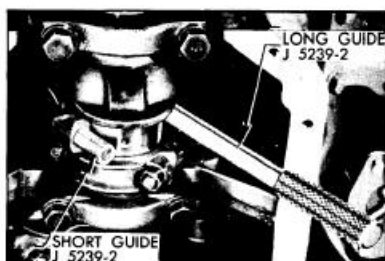

Figure 2-30—Connecting Rod Bolt Guides Installed
4. With No. 1 crankpin straight down, remove the cap with bearing shell from No. 1 connecting rod, then install the short Connecting Rod Bolt Guide J-5239-1 on the lower connecting rod bolt, and install the long Guide J-5239-2 on the opposite bolt, above crankpin. Turn guides down to hold the bearing upper shell in place. See Figure 2-30.
long guide pin placed above the crankpin. Push the assembly down until the rod bearing seats on crankpin. See Figure 2-30.